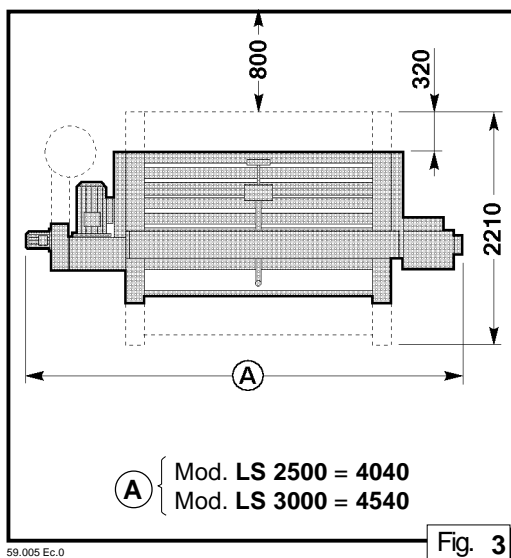

Fig. 3
4.3. UBICAZIONE MACCHINA (fig. 3)
4.3. MACHINE SETTING (fig. 3)